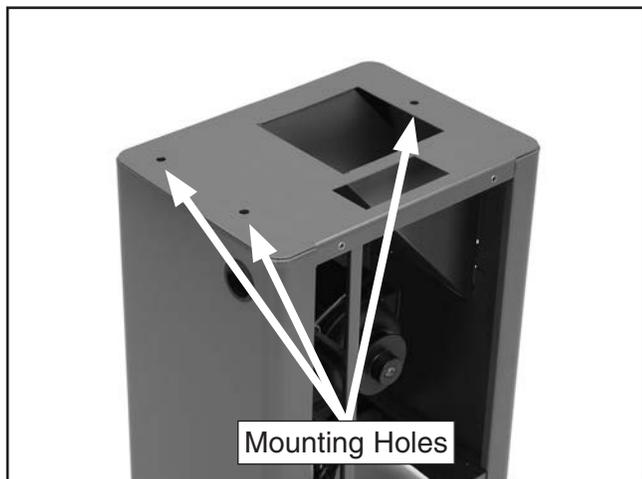

Figure 13. Mounting holes.
3. Align the three bolt holes on the jointer with the three holes on the cabinet (**Figure 13**).